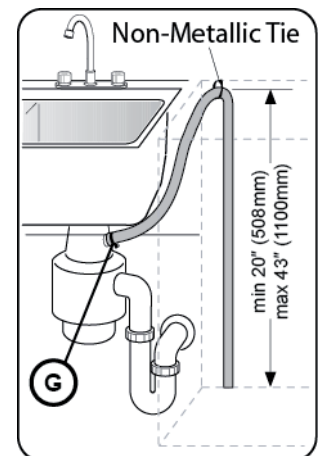

Figure 12
2. Directly to a disposer dishwasher drain connection, as shown in Figure 12.